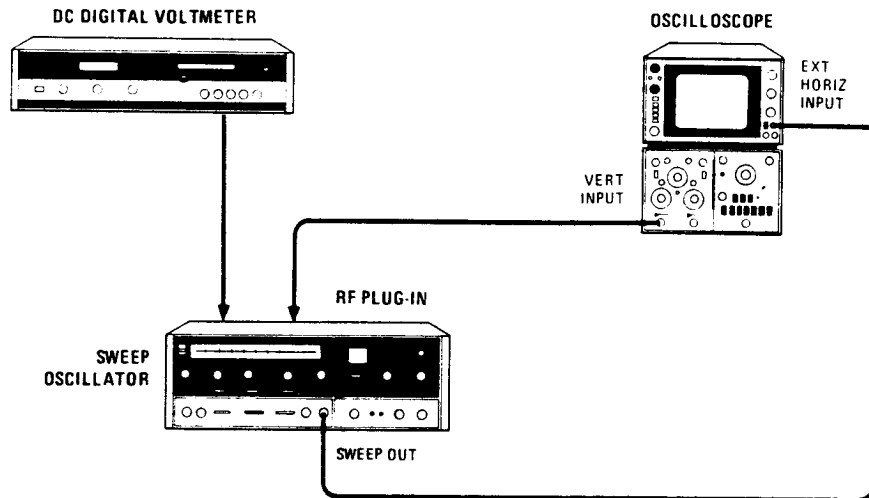

Figure 5-1. Adjustment Test Setup
DESCRIPTION: The A4 and A5 Regulator Assemblies are adjusted to provide the proper dc voltages for the 8620C Sweep Oscillator and RF units connected in the mainframe. (See Figure 5-1 for test setup.)
DESCRIPTION: Fan Speed and ON/OFF ratio are adjusted for maximum efficiency (see Figure 5-1 for test setup).
DESCRIPTION: 1 kHz Oscillator is adjusted for proper operating frequency (see Figure 5-1 for test setup).
DESCRIPTION: Set correct sweep time, sweep return time, symmetry, and range of RF Blanking signal (see Figure 5-1 for test setup).
- a. Connect equipment as shown in Figure 5-1.